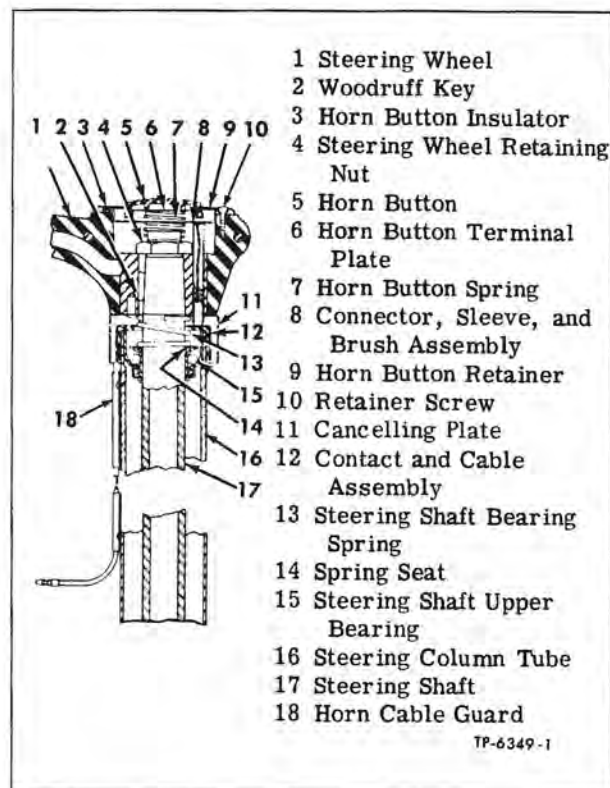

Figure 3—Steering Wheel and Horn Contact Installation
Upper end of steering shaft is supported by a ball bearing assembly which is pressed into steering column tube. Horn cable guard is attached to steering column tube with three screws. Steering wheel is keyed to upper end of steering shaft and secured with a nut. Horn contact, spring, button, and components are mounted on upper end of shaft and in center of steering wheel as shown in figure 3.
### REMOVAL (Figs. 3 and 4)
Key numbers in text refer to figure 3.
1. Remove steering wheel as previously described. Remove Woodruff key (48) from slot in steering shaft; then remove bearing spring (46) from shaft and steering column tube.
3. Remove four bolts and lock washers attaching steering column tube and bevel gear housing upper cover assembly (1) to bevel gear housing (15). Lift tube and cover assembly from bevel gear housing. Save shims (6, 7, and 8) used between cover and housing for reuse at assembly.
4. While holding steering shaft (38) in a vise with soft jaws, remove pinion gear retaining nut (30) from end of steering shaft (38).
5. Using a brass drift and hammer, tap steering shaft (38) out of pinion gear (31). Remove gear, lower bearing (33), and two bearing races (32 and 34).
6. Remove steering shaft (38) from steering column tube (1).
**NOTE:** It may be necessary to remove steering shaft upper bearing (15, fig. 3) and spring seat (45) before shaft can be removed.